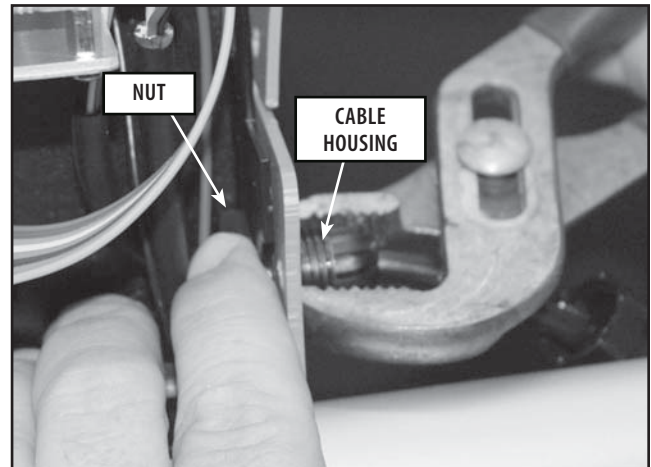

FIGURE 6.19
3. Hold the nut inside of the unit Frame securing the Receptacle Cable. Using a pair of adjustable pliers, turn the housing on the outside of the unit counterclockwise to release. Continue to unscrew and remove the Receptacle Cable. **Refer to Figure 6.19.**